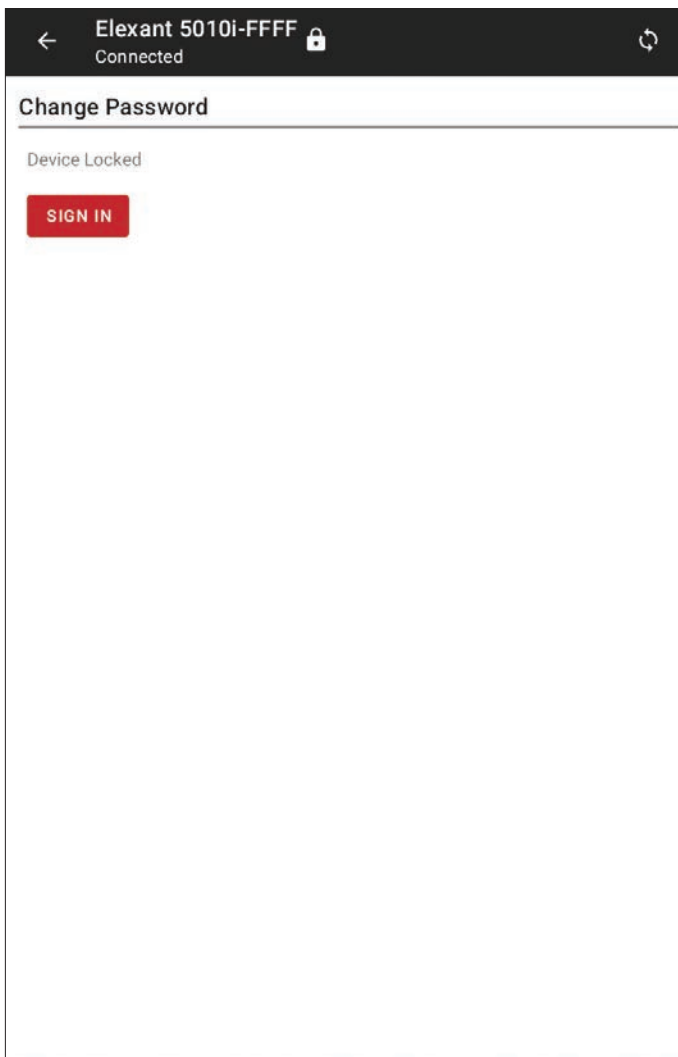
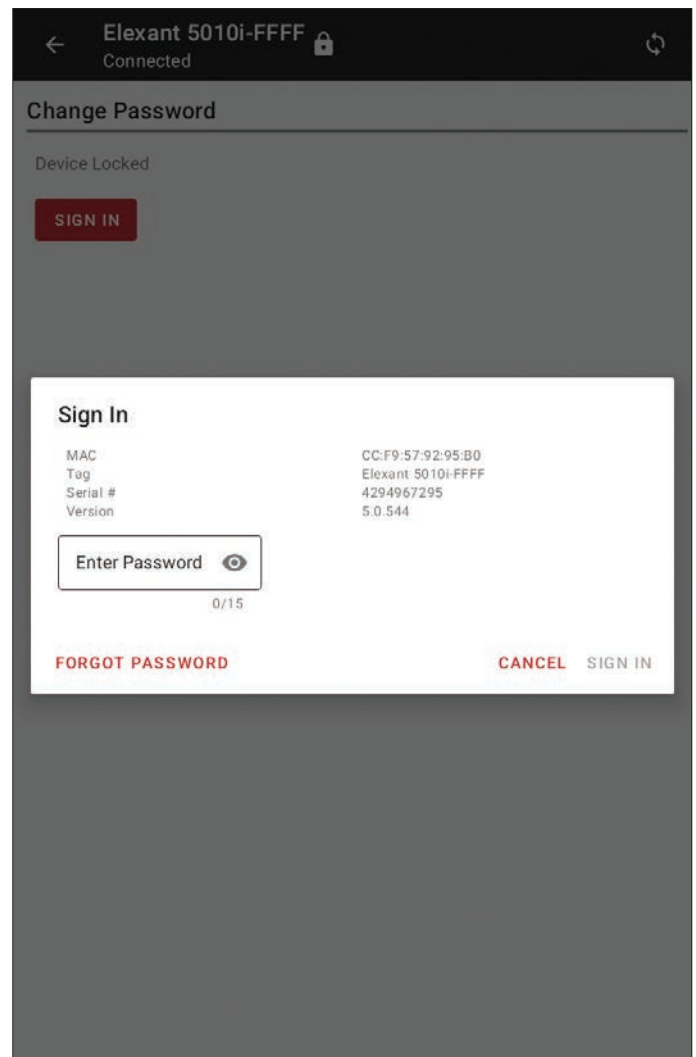

Figure 13: Device Locked
Figure 14: Sign In Popup Screen
- Click the Lock Icon on the top of the screen and you will be prompted asking you to Sign in. Click Sign in and you will be directed to the Sign-In Popup Screen (Fig.14)
- Try to change any of the values with a white background and you will be prompted asking you to Sign in. Click Sign in and you will be directed to the Sign-In Popup Screen (Fig.14)
- Navigate to the Bluetooth® Security Screen and click “SIGN IN” (Fig. 13) and it will lead you to the Sign-In Popup Screen (Fig. 14).